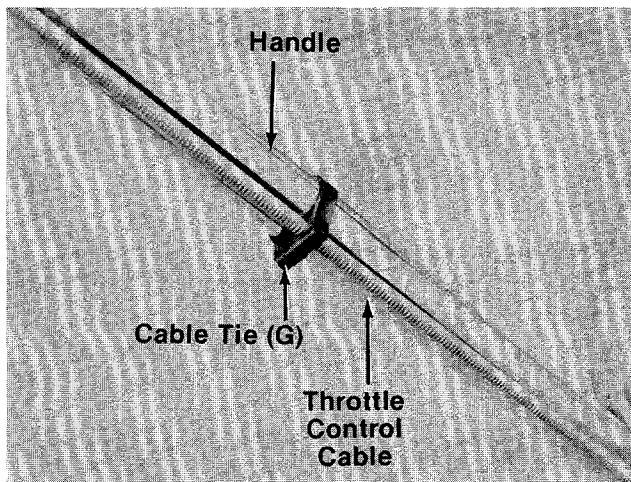

FIGURE 6.
6. Secure throttle control cable to upper and lower handles with cable ties (G) provided. See figure 6.